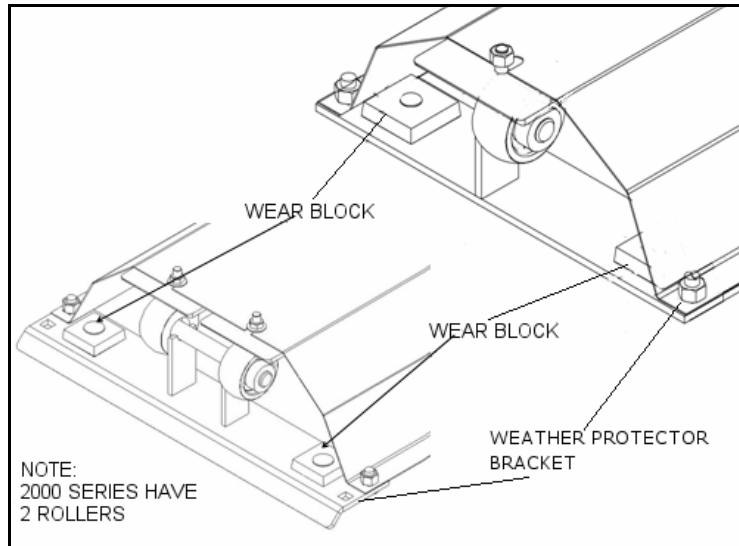

Figure 8.5 Weather Guard Guide Block
3. Adjust wear blocks if unit has weather protectors (see Figure 8.5).